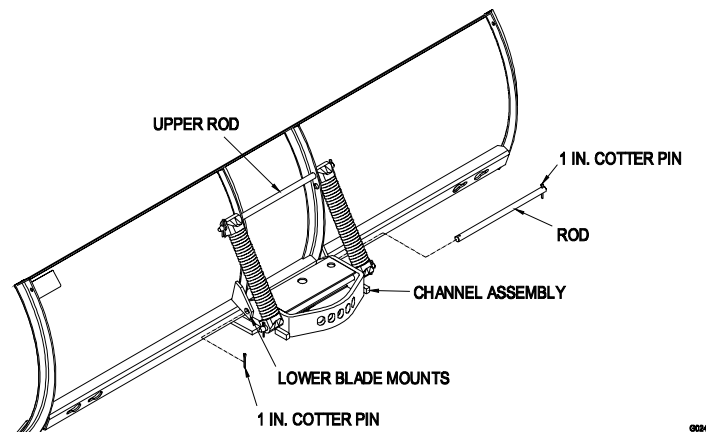

Figure 1
1. Lift and rotate the channel assembly (Fig. 1) so that the holes align with the lower blade mounts.
2. Slide the rod through the holes and secure it with two cotter pins (1 in.) (Fig. 1).